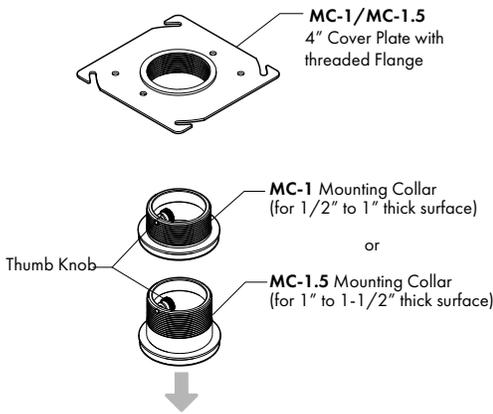
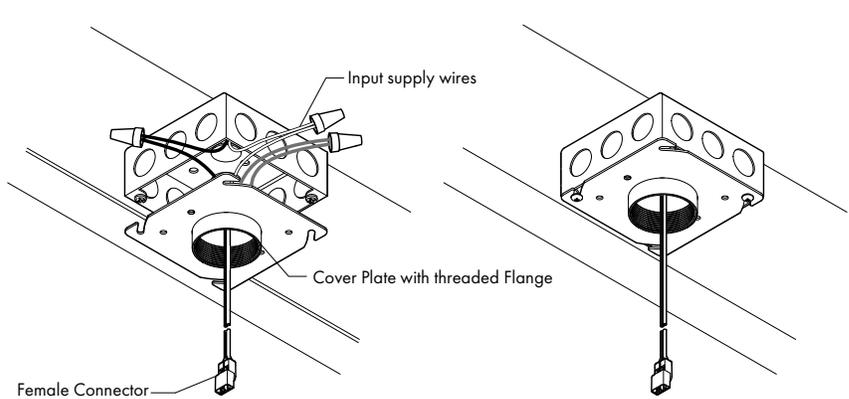

FIG 4.2 Remove Mounting Collar
FIG 4.3 Wire Connector & Install Cover to Junction Box
STEP 3 Remove Mounting Collar from **MC Kit**, install Cover Plate to junction box and pull Female Connector through Cover Plate aperture - **FIG 4.2 & FIG 4.3**.
STEP 5 Install Mounting Collar to threaded Flange until tight against mounting surface and tighten thumb knob - **FIG 4.2**.